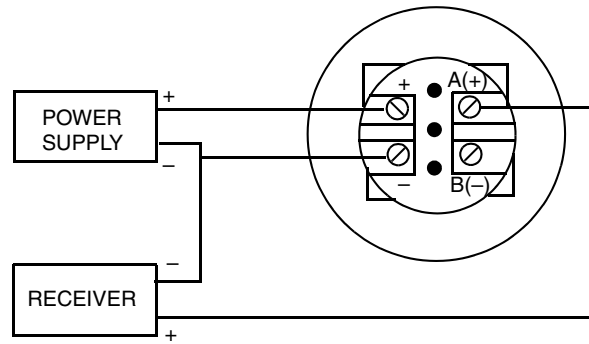
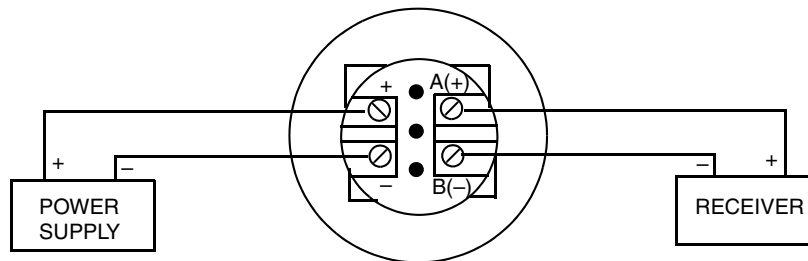

Figure 37. Three-wire Connection
Figure 38. Four-wire Connection
For relatively short wiring runs having low resistance, three-wire connections as shown in Figure 37 can be used to minimize wiring costs. However, a voltage drop in the common lead carrying the power supply current causes an error in the 1 to 5 V dc signal.
For wiring runs with high resistance due to long lengths or other reasons) or for maximum accuracy, a four-wire connection as shown in Figure 38 can be used to provide input-output isolation. With four-wire configuration, voltage drop in the power supply loop does not affect measurement accuracy.
6. Connect the power supply and receivers (such as controllers, recorders, indicators) as shown in Figure 37 or Figure 38. Typical loop wiring is shown in Figure 39.